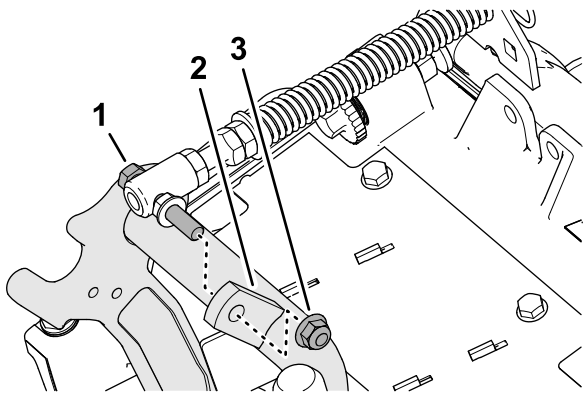

Figure 18
3. Remove the flange locknut (3/8 inch) that secures the capscrew of the turf compensation spring to the right tab of the carrier frame, and remove the compensation spring from the cutting unit (Figure 18).